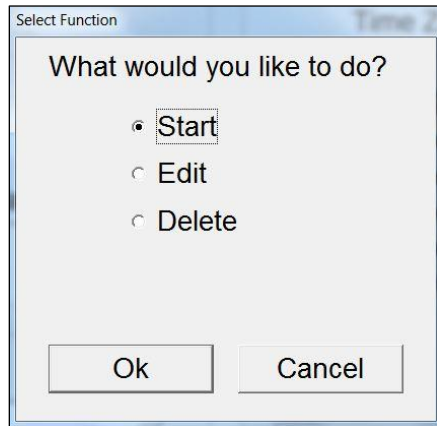

Figure 10: Select “Start,” “Edit,” or “Delete”
5. If you chose “Select an Existing Format” (from step #3 above), you have the option to “start” grading labels, “edit” the chosen template, or “delete” the chosen template (Figure 10).